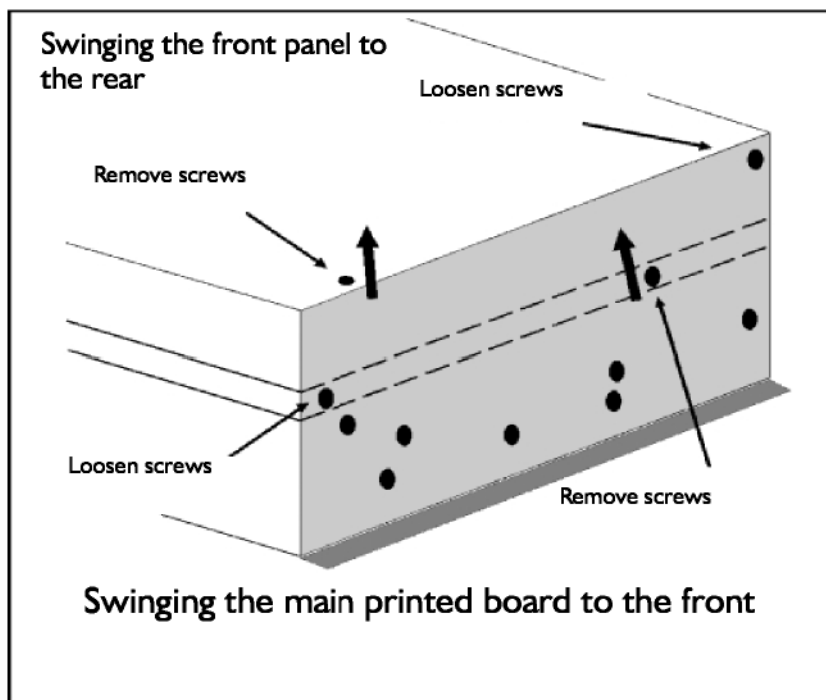

Figure 3.6
- ☑ Removing the front panel: Loosen the top two screws at the edge of the side sections (see Figure 3.6.) and the two screws in the cover. You can now take off the metal cover.